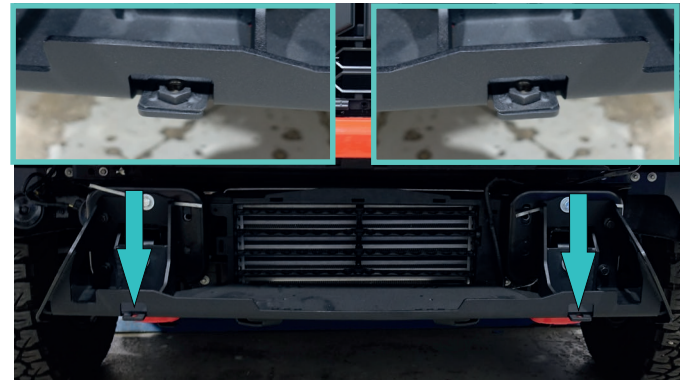

Fig.41
39. Put 2 insert nuts (item 18) on winch bracket (item 17) as shown in fig.41.